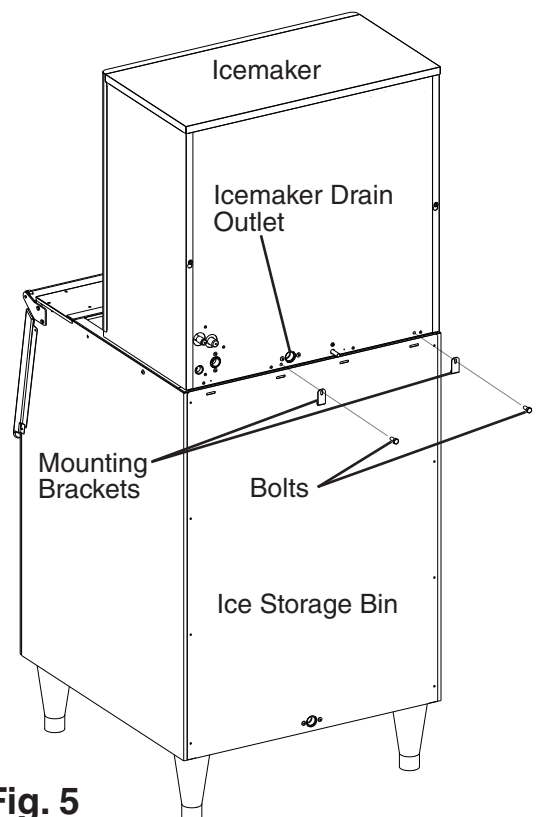

Fig. 5
- 6) Secure the icemaker to the dispenser unit/ice storage bin using the mounting brackets and bolts provided. See Fig. 5.